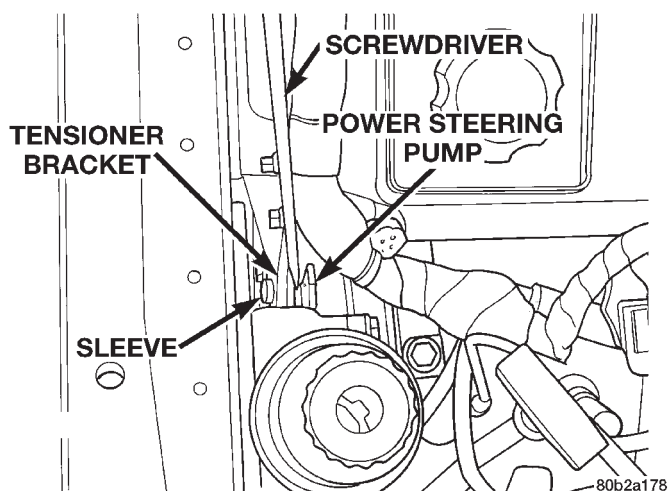

Fig. 7 Tensioner Bracket To Power Steering Pump Sleeve
(12) Insert a screwdriver between the power steering pump and the sleeve in the tensioner bracket (Fig. 7). Using the screwdriver push the sleeve forward in the tensioner bracket until it is flush with the back side of the tensioner bracket (Fig. 7).
NOTE: When tightening the power steering pump mounting bolt going through the sleeve (Fig. 7) be sure the sleeve is fully seated against the power steering pump.